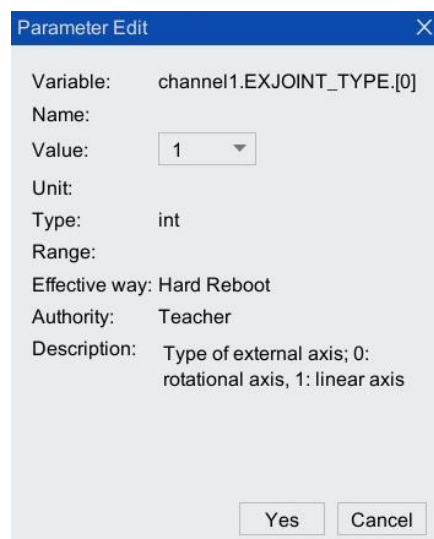

Figure 6-16 External axis type dialog box
Step2. If you need to modify the configuration, click to select the row of the [0] sub-item in the [EXJOINT_TYPE] parameter, click the <Edit> button, and a dialog box will pop up as shown in Figure 6-16. The parameters in [Value] can be modified. The parameter description is shown in Table 6-7.